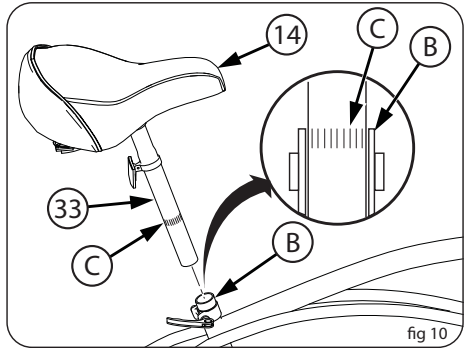

fig 10
- Point the Seat forward and put the Seat Post into the Seat Tube (B) (figs 10, 11).